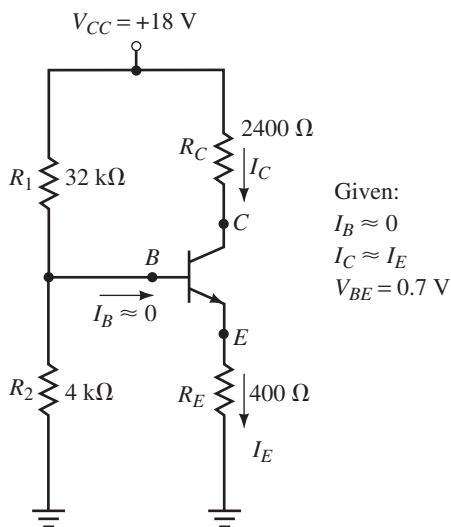

FIGURE 7-67
25. Calculate I_C and V_{CE} for the circuit of Figure 7-67.